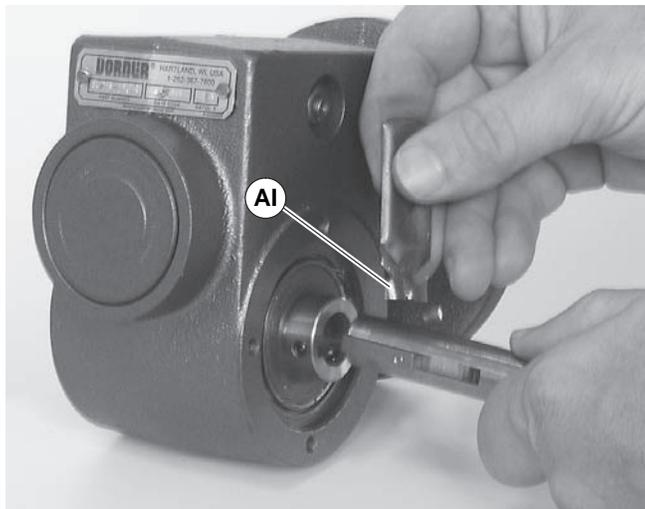

Figure 24
- Apply grease (Figure 24, item AI) to shaft.